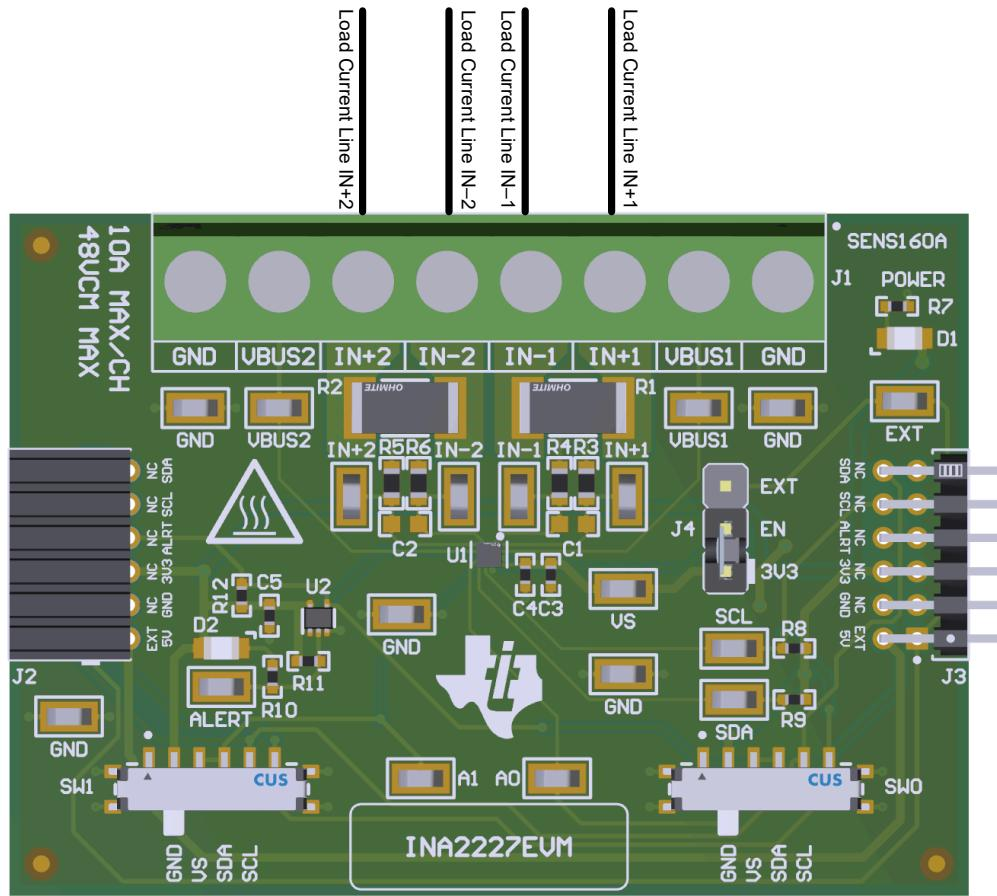

Figure 2-4. IN+ and IN- Wiring for 10A or Less
- a. Solder a 2512 resistor across the pads of R1 or R2 that connects the IN+ and IN- inputs as shown in Figure 2-4.